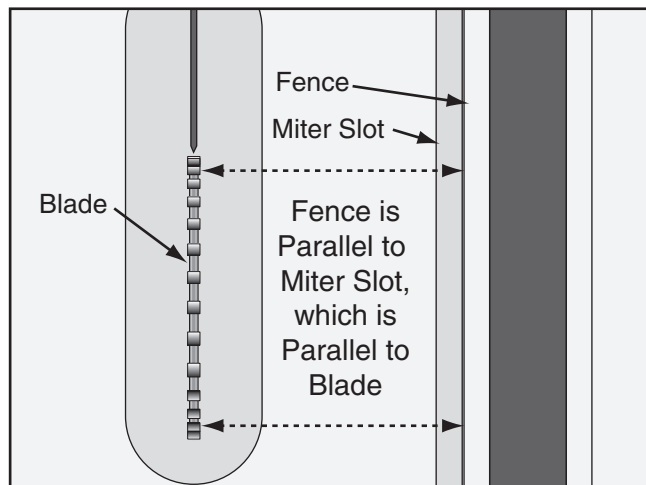

Figure 131. Checking fence parallelism with blade.
- Slide the fence up against the right hand edge of the miter slot, lock it in place, then raise the blade above the insert. Examine how the fence lines up with the miter slot and the blade, as shown in **Figure 131**.
—If the fence/miter slot are parallel with the blade, as shown in **Figure 131**, no further adjustments need to be made.
5. Rotate the blade 180° and recheck the distance between the fence and the blade tooth you marked in **Step 4** to ensure they are parallel (see **Figure 131** on **Page 76**).